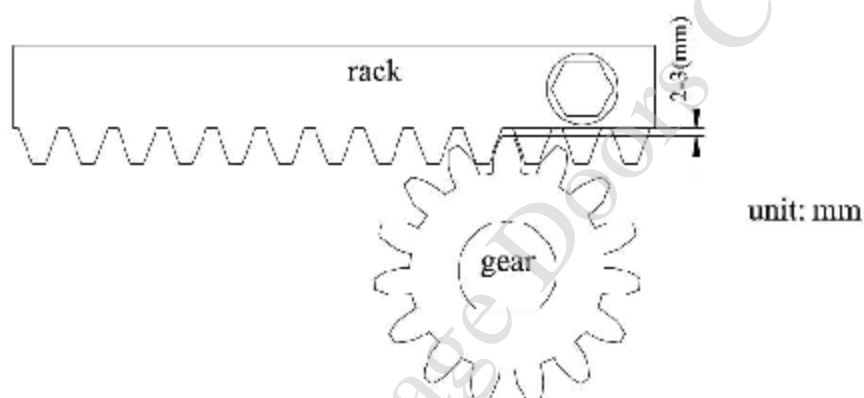

Fig. 3
**Warning:** There must be a clearance of 2-3 mm between the rack and gear as Fig 3, in case the motor function and manual operation may be effected.
**Note:** Please install the rack as show in Fig. 3. If the rack is installed under the gear, please exchange the connection of SW1 & SW2.